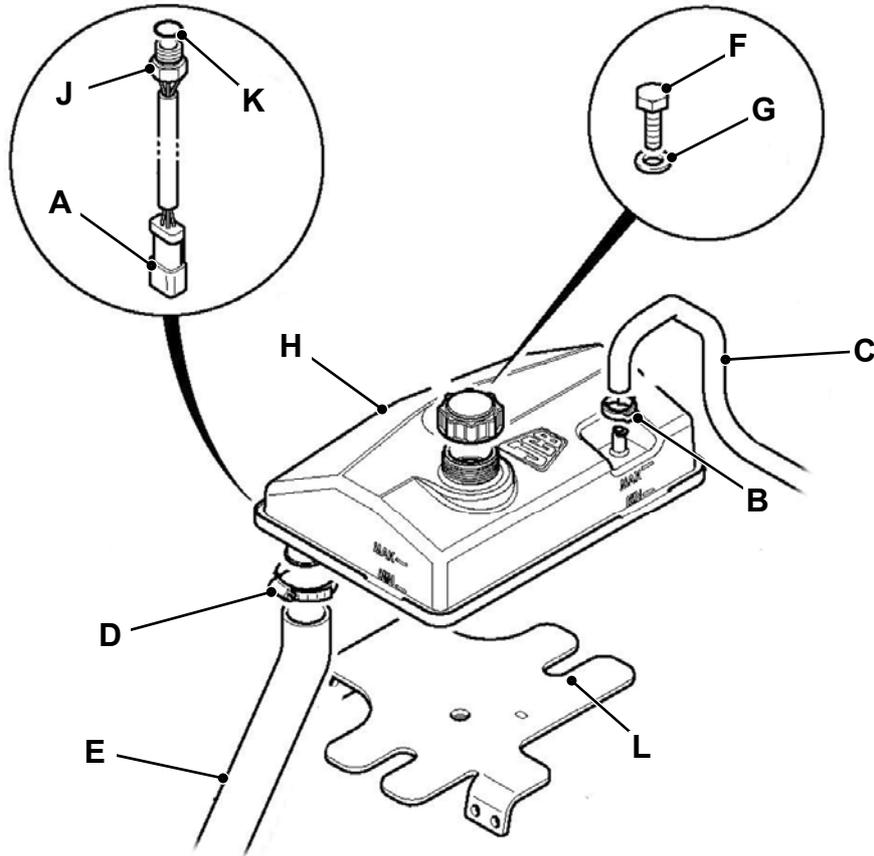

Fig 8.
- 2 → Fig 8. (□ K-16). Carefully unscrew the coolant level sensor **J** from the tank.